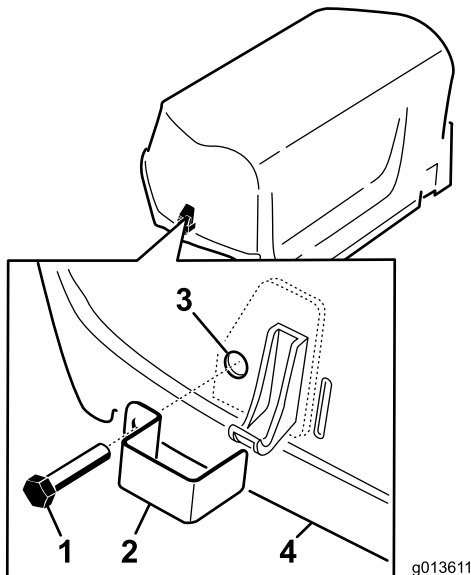

Figure 15
2. Install a latch lock over the hood latch (Figure 15) with a tap bolt (2 total).